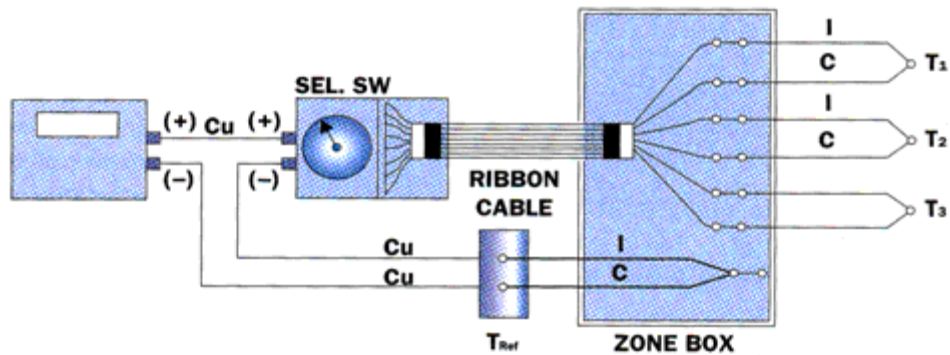

Figure 4. A zone-box circuit for reading many thermocouples with mostly copper wire.
**Multiple Thermocouples:** Figure 4 shows a circuit for reading a number of thermocouples (three shown) using a voltmeter, a uniform-temperature zone box, a double-pole selector switch (also uniform in temperature), and a reference temperature bath. Multiple-conductor ribbon cable and "press-on" connectors can be used between the zone box and the selector switch. The connectors at the two ends of the ribbon cable must each be inside a zone-box but the two boxes need not be at the same temperature.